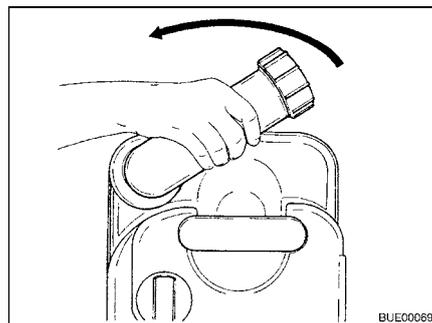

Fig. 279 Turning drainage neck
- Turn the drainage neck upwards (Fig. 279).